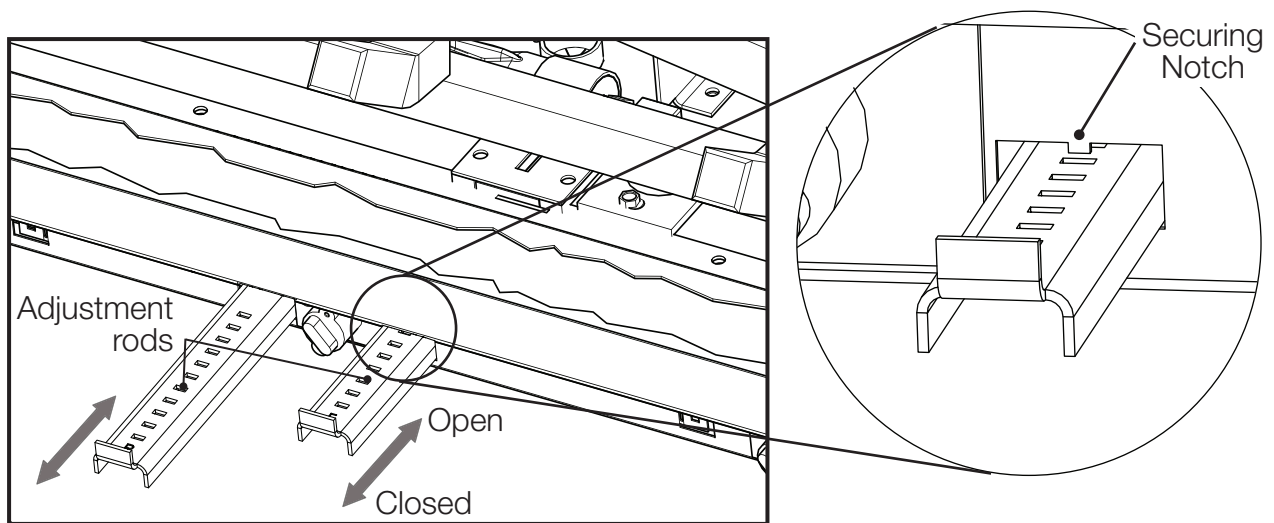

Fig. 1
Fine air adjustments should be made using the levers to achieve the desired flame (**FIG. 1**).
- A.** Position the adjustment rod into the middle of the opening to disengage it from the securing notches (**Fig. 1**).
- Remove the 4 screws securing the log support assembly. Remove and set aside (**Fig. 1**).